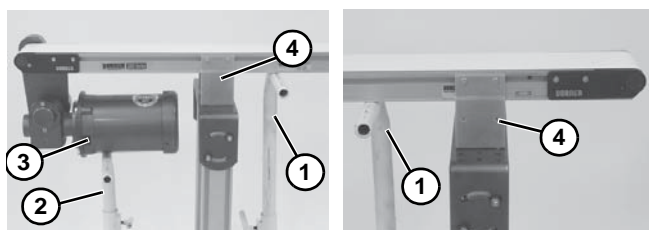
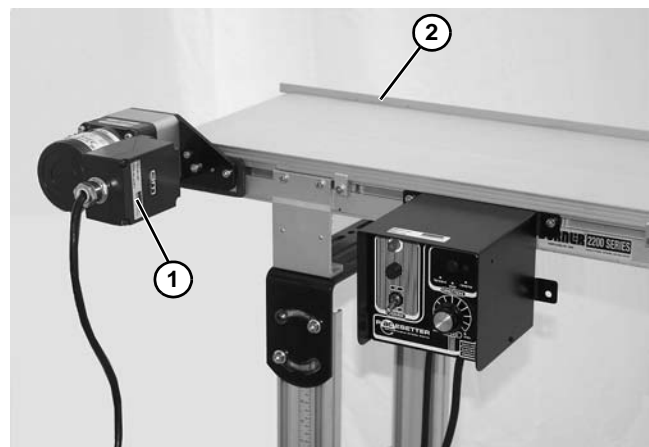

Figure 24
Figure 25
1. Place temporary support stands (Figure 24, item 1) at both ends of the conveyor. Place an additional support stand (Figure 24, item 2) under the drive motor (Figure 24, item 3), if equipped. See WARNING.
2. Remove mounting brackets (Figure 24, item 4) from one side of conveyor. (Reverse steps in “Support Stand Mounting Brackets” on page 8 or “Surface Mount Brackets” on page 9.) If equipped with heavy load drive package, remove brackets from side opposite drive (Figure 25, item 1).
3. If equipped, remove return rollers, guiding (Figure 25, item 2) and accessories from side opposite drive (Figure 25, item 1).
1. Ensure temporary support stands (Figure 24, item 1) are placed at both ends of the conveyor. Place an additional support stand under the drive motor (Figure 24, item 3), if equipped. See WARNING.